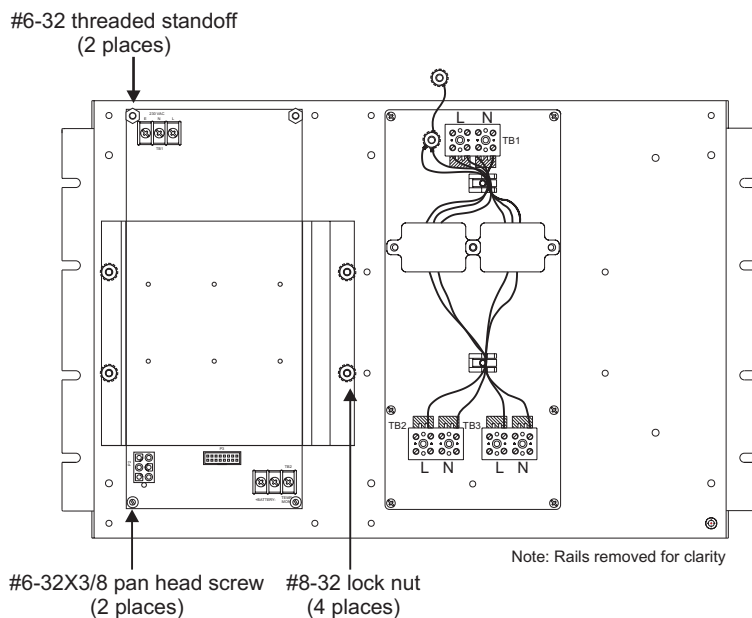

Figure-2: Power supply assembly mounting
1. Attach the power supply assembly to the 4 threaded mounting studs on the rail chassis assembly (see Figure-2).